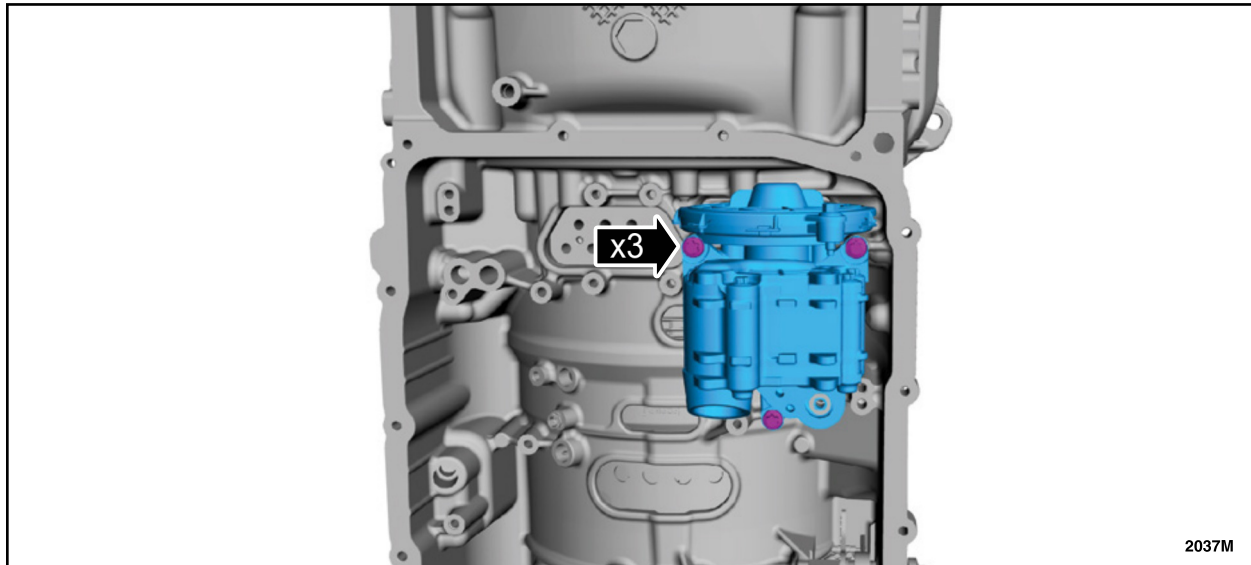

FIGURE 37
41. Install the transmission fluid pump and the bolts. See Figure 37.